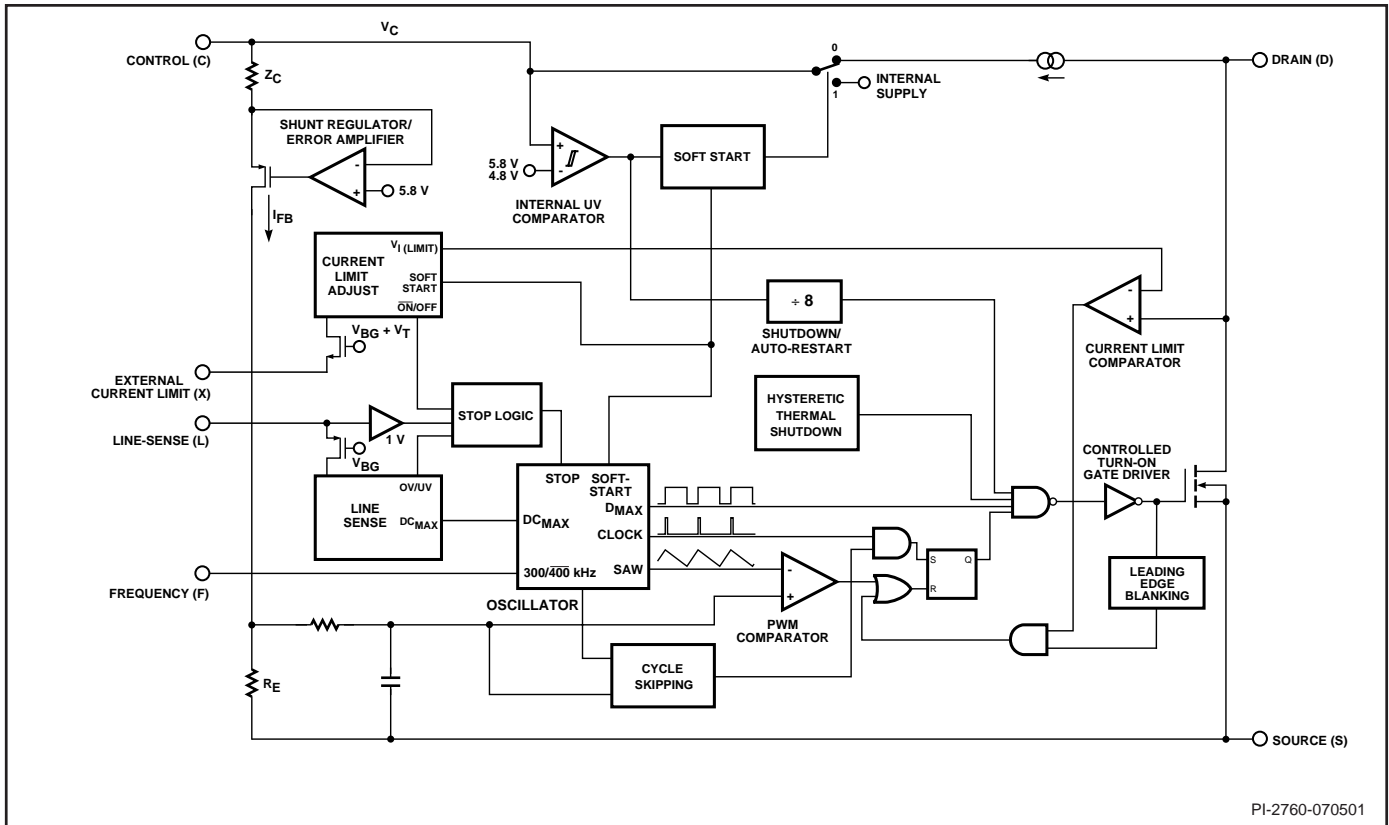
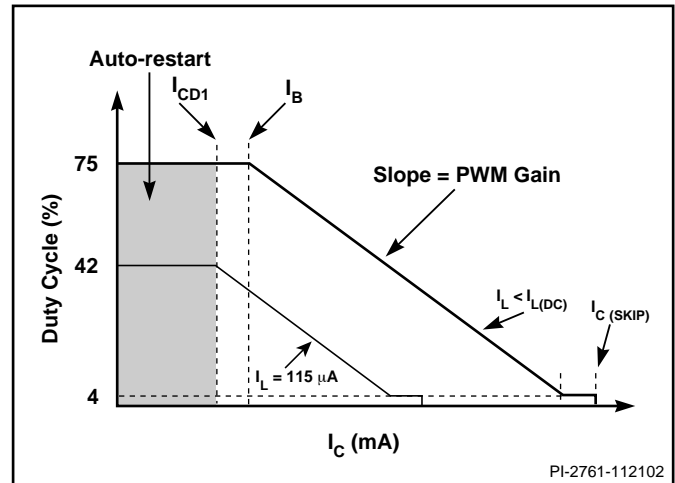

Figure 2. Functional Block Diagram.
Figure 4. Relationship of Duty Cycle to CONTROL Pin Current.
*DPA-Switch* is an integrated switched mode power supply chip that converts a current at the control input to a duty cycle at the open drain output of a high voltage power MOSFET. During normal operation the duty cycle of the power MOSFET decreases linearly with increasing CONTROL pin current as shown in Figure 4. A patented high-voltage CMOS technology allows both the high-voltage power MOSFET and all the low voltage control circuitry to be cost effectively integrated onto a single monolithic chip.
approximately 5.8 V, the control circuitry is activated and the soft-start begins. The soft-start circuit gradually increases the duty cycle of the MOSFET from zero to the maximum value over approximately 5 ms. The high voltage current source is turned off at the end of the soft-start. If no external feedback/supply current is fed into the CONTROL pin by the end of the soft-start, the CONTROL pin will start discharging in response to the supply current drawn by the control circuitry and the gate current of the switching MOSFET driver. If the power supply is designed properly, and no fault condition such as open loop or overloaded output exists, the feedback loop will close, providing external CONTROL pin current, before the CONTROL pin voltage has had a chance to discharge to the lower threshold voltage of approximately 4.8 V (internal supply under-voltage lockout threshold). When the externally fed current charges the CONTROL pin to the shunt regulator voltage of 5.8 V, current in excess of the consumption of the chip is shunted to SOURCE through resistor  $R_E$  as shown in Figure 2. This current flowing through  $R_E$  controls the duty cycle of the power MOSFET to provide closed loop regulation. The shunt regulator has a finite low output impedance  $Z_C$  that sets the gain of the error amplifier when used in a primary feedback configuration. The dynamic impedance  $Z_C$  of the CONTROL pin together with the external CONTROL pin capacitance sets the dominant pole for the control loop.
The pulse width modulator implements voltage mode control by driving the output MOSFET with a duty cycle inversely proportional to the current into the CONTROL pin that is in excess of the internal supply current of the chip (see Figure 4). The excess current is the feedback error signal that appears across  $R_E$  (see Figure 2). This signal is filtered by an RC network with a typical corner frequency of 30 kHz to reduce the effect of switching noise in the chip supply current generated by the MOSFET gate driver. The filtered error signal is compared with the internal oscillator sawtooth waveform to generate the duty cycle waveform. As the control current increases, the duty cycle decreases. A clock signal from the oscillator sets a latch that turns on the output MOSFET. The pulse width modulator resets the latch, turning off the output MOSFET. Note that a minimum current must be driven into the CONTROL pin before the duty cycle begins to change.
To maintain power supply output regulation, the pulse width modulator reduces duty cycle as the load at the power supply output decreases. This reduction in duty cycle is proportional to the current flowing into the CONTROL pin. As the CONTROL pin current increases, the duty cycle reduces linearly towards a minimum value specified as minimum duty cycle,  $DC_{MIN}$ . After reaching  $DC_{MIN}$ , if CONTROL pin current is increased further by approximately 2 mA, the pulse width modulator will force the duty cycle from  $DC_{MIN}$  to zero in a discrete step (refer to Figure 4). This feature allows a power supply to operate in a cycle skipping mode when the load consumes less power than the *DPA-Switch* delivers at minimum duty cycle,  $DC_{MIN}$ . No additional control is needed for the transition between normal operation and cycle skipping. As the load increases or decreases, the power supply automatically switches between normal and cycle skipping mode as necessary.
The same resistor used for UV and OV also implements line voltage feed forward that minimizes output line ripple and reduces power supply output sensitivity to line transients. This feed forward operation is illustrated in Figure 4 by the different values of  $I_L$ . Note that for the same CONTROL pin current, higher line voltage results in smaller operating duty cycle. As an added feature, the maximum duty cycle  $DC_{MAX}$  is also reduced from 75% (typical) at a voltage slightly higher than the UV threshold to 33% (typical) at the OV threshold (see Figures 4, 7). Limiting  $DC_{MAX}$  at higher line voltages helps prevent transformer saturation due to large load transients in forward converter applications.  $DC_{MAX}$  of 33% at the OV threshold was chosen to ensure that the power capability of the